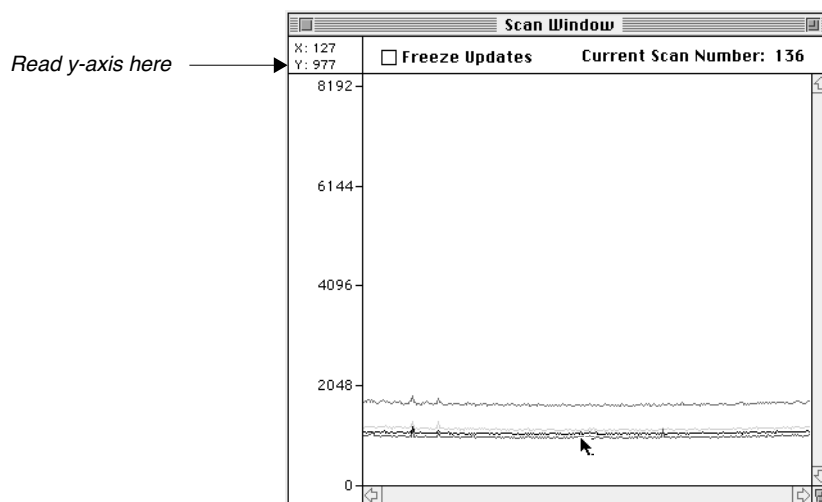

Figure 4-12. Cursor positioned correctly to measure PMT gain
2. Position the cursor so the tip of the arrow just touches a flat section of the lowest scan line (usually the blue line), as in Figure 4-12.